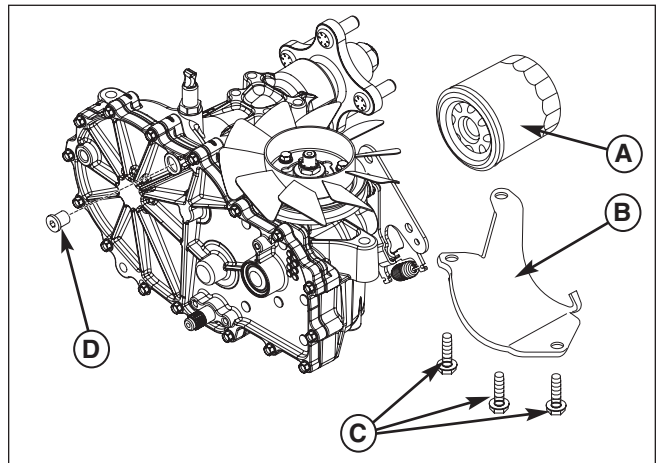

Figure 22. Transmission (Left Side Shown.)
1. Locate the transmission oil filters (A, Figure 22) underneath the rear of the machine on the transmissions.
2. Remove the three 1/4” filter guard screws (C) and the filter guard (B).